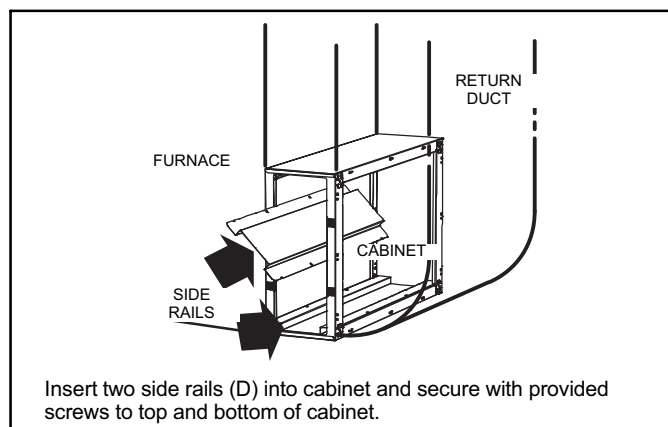

Figure 13. Install Side Rails
NOTE: Side rails (D) are attached to the SlimLine™ Cabinet after the cabinet is installed on the Furnace/Air Handler (see figure 13).
7. Insert side rails (D) into the cabinet and use the provided screws to secure them to the cabinet at both the top and bottom (see figure 13).